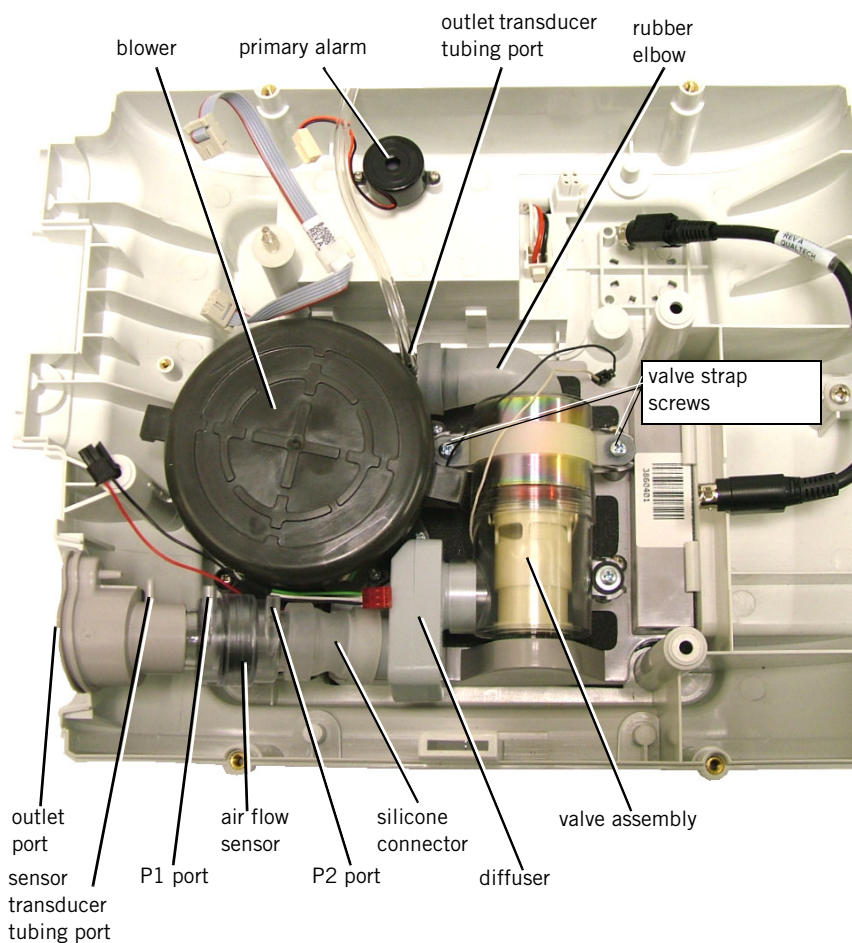
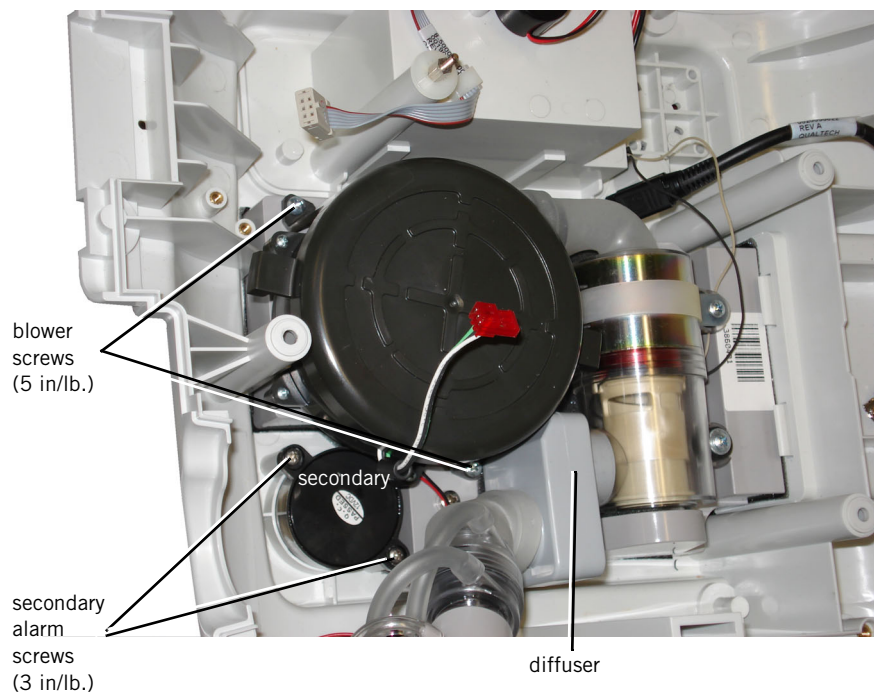

Figure 8-14: Valve Assembly and base layer components
Figure 8-15: Blower and Secondary Alarm
Follow these steps to remove the valve assembly (Figure 8-14). Reverse to install.
Follow these steps to remove the Blower (Figure 8-14, Figure 8-15). Reverse to install.
Follow these steps to remove the secondary alarm (Figure 8-14, Figure 8-15). Reverse to install.
4. Do not disconnect the outlet port and flow sensor assembly from the diffuser. Move them out of the way. Refer to Figure 8-14.
Follow these steps to remove the main body assembly (Figure 8-15). Reverse to install.